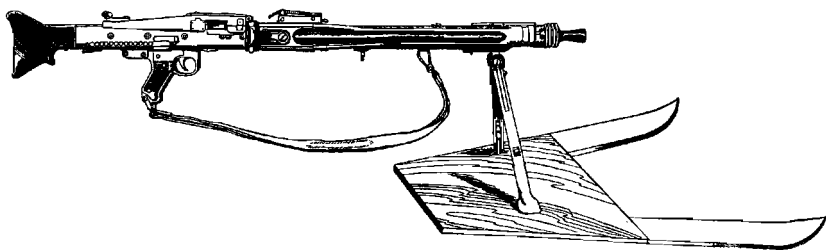

Figure 2.—“Snow Board” Used as a Base for German Light Machine Gun in Firing Position.
(3) *Light Machine Gun*.—The light machine gun is slung on the back. In going into position, the Germans use brushwood or a “snow board” (see fig. 2) for a base. They take care not to disturb, by unnecessary trampling, the snow cover in front of positions. The purpose of this precaution is to avoid recognition by the opposing force.